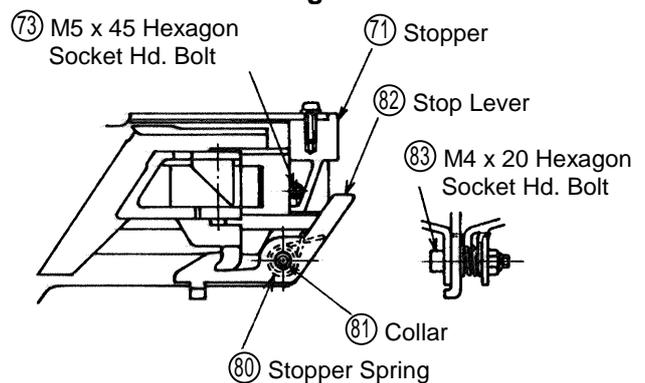

Fig. 18 Reassembly of the Stop Lever, Stopper Spring, etc.
(b) Reassembly: (see Fig. 18)
- As illustrated in Fig. 18, insert the Collar (81) into the Stop Lever (82), and mount the Stopper Spring (80) with the M4 x 20 Hexagon Socket Hd. Bolt (83) (see Para. 1-4 for tightening torque). At this time, the Stopper Spring (80) must be assembled so that one of its hooked portions is inserted into the Stop Lever (82), and the other hooked portion is inserted into the Magazine (38).
- Fix the stopper (71) in position with the M5 x 45 Hexagon Socket Hd. Bolt (73) (see Para. 1-4 for tightening torque) .